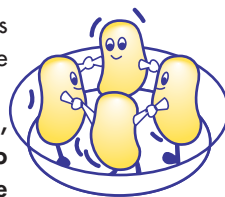

fig. 6
- 5) If you are preparing a large number of portions of the same food item (e.g., boiled potatoes), **place** those portions in a Pyrex dish in order to have them cook in a uniform manner (see Fig. 6):